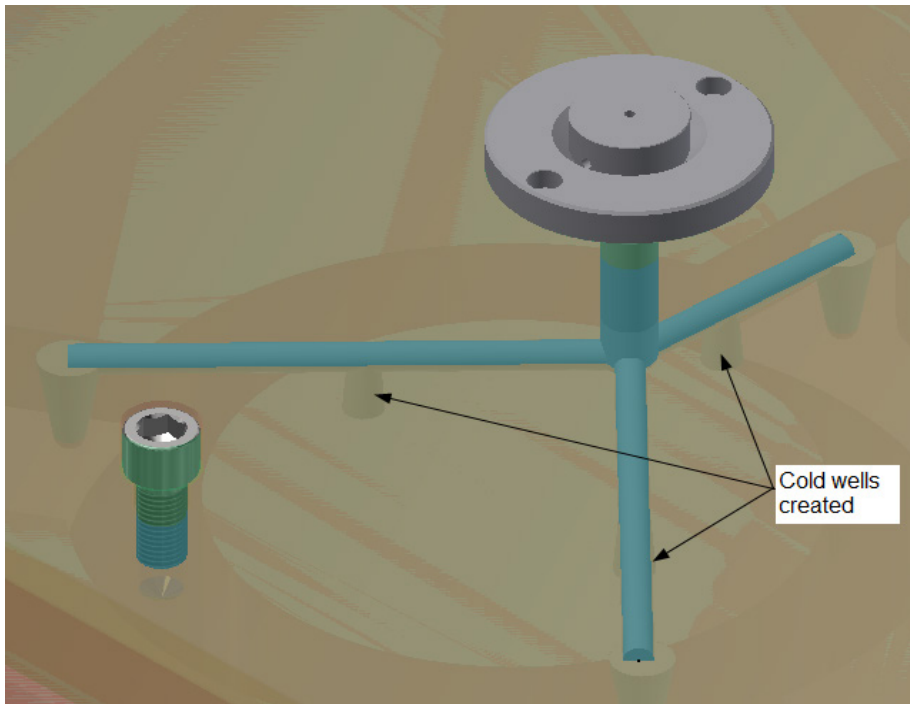

Figure 19-94 The cold well created
3. Similarly, create more cold wells on each runner, refer to Figure 19-94.